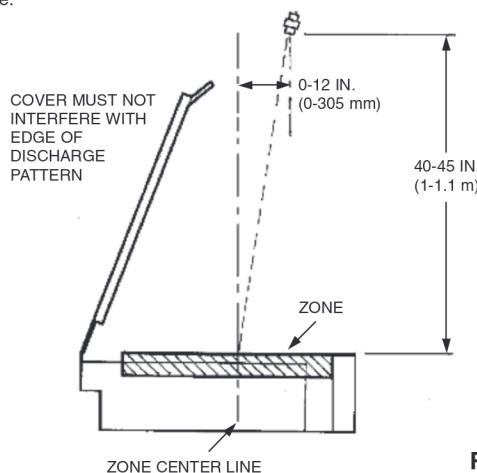

FIGURE 72
* See Figure 72 for nozzle location